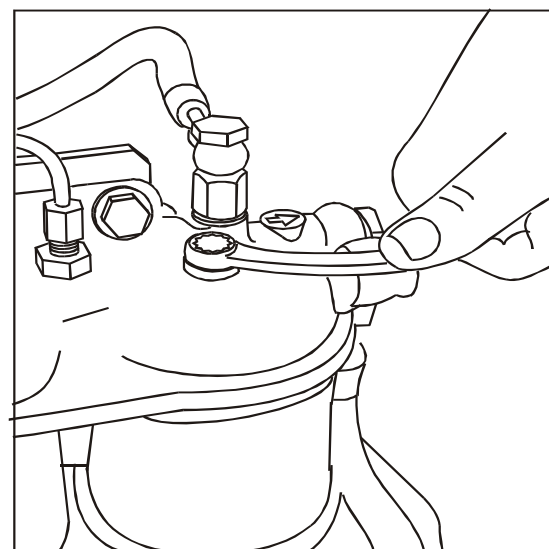

FIG 10
2. Afrouxe o parafuso central **Fig. 10.**